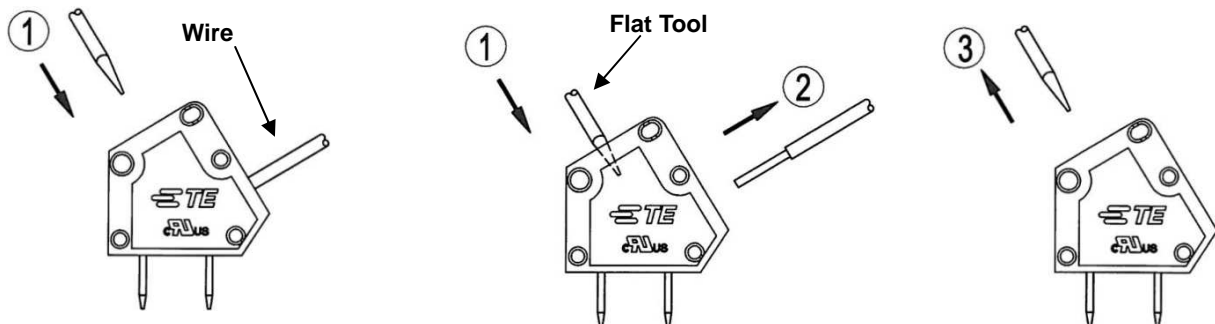

Figure 4: 2834084, 2834085
3. Wire Releasing: see Figure 4